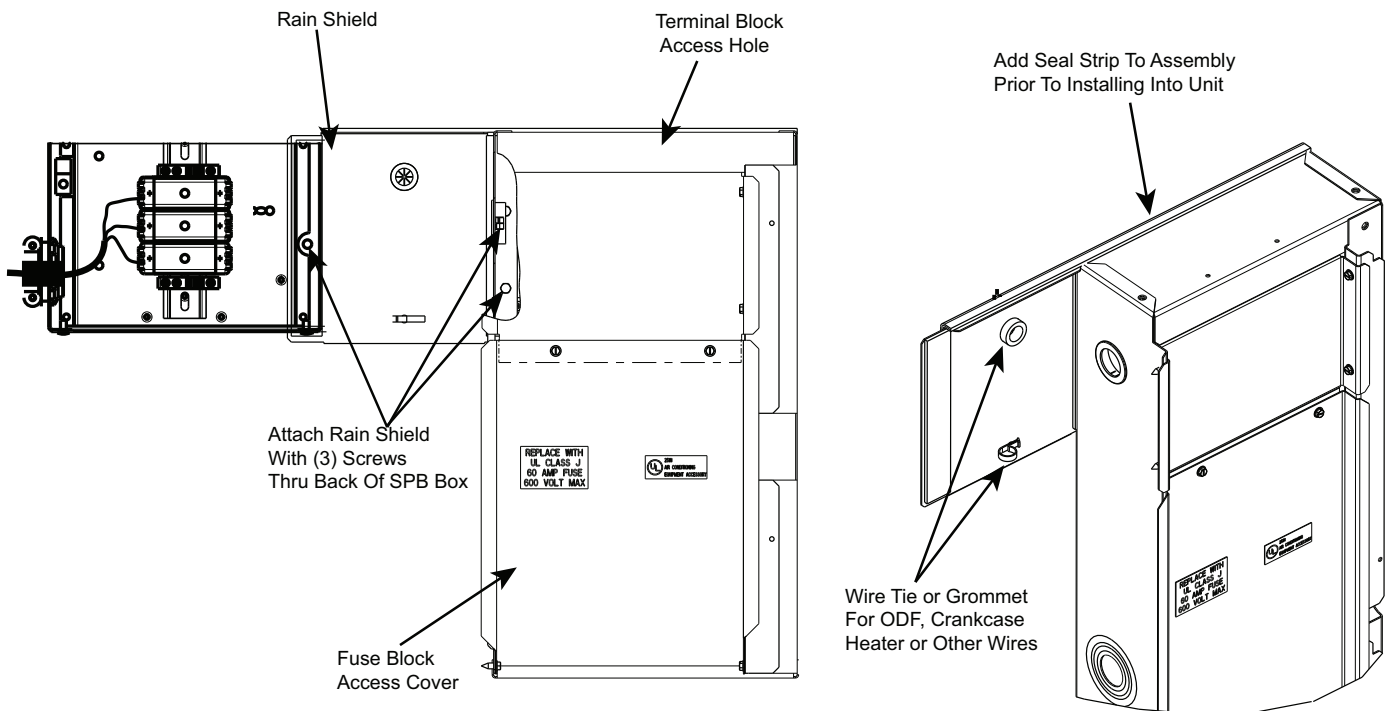

Fig. 14 — High SCCR Single Point Box Assembly — Rain Shield
- b. Route the Unit Power Harness (with bushing added) into High SCCR fuse box mounted to the underside of the unit's main box. (See Fig. 14 and 15.)